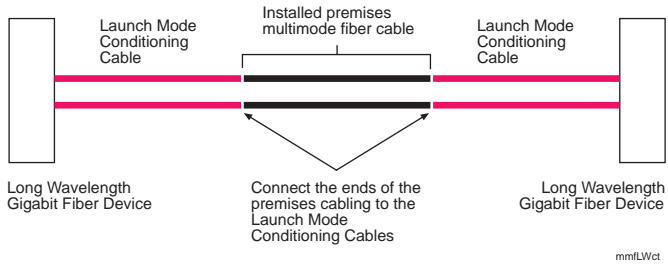

Figure 2-5 Launch Mode Conditioning Cable Connection for the DELHL-UA
1. Connect Launch Mode Conditioning cable to the multimode fiber on both ends of the premises cable before connecting the DELHL-UA to the premises cabling. See Figure 2-5.